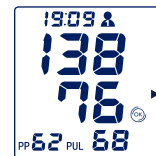

Figure 4
- The determined systole, diastole and pulse values, as well as the pulse pressure (PP) are shown in the display (Figure 4).